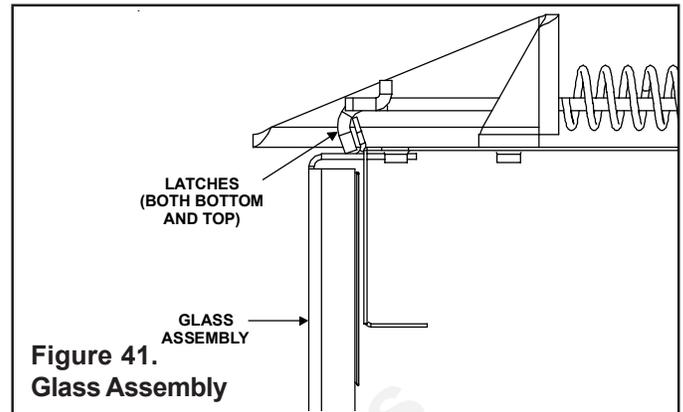

Figure 41.
- Pull the four glass latches out of the groove on the glass frame. Remove glass door from the unit (see Figure 41).